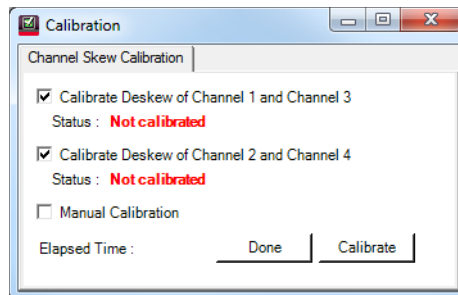
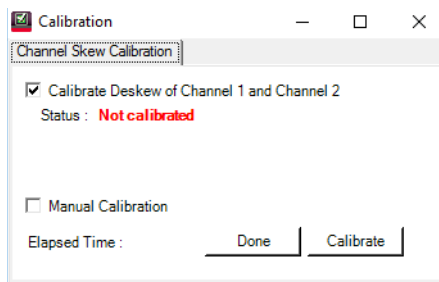

Figure 15 Options for Channel Skew Calibration on a 4-Channel Oscilloscope
Figure 16 Options for Channel Skew Calibration on a 2-Channel Oscilloscope
- 2 The **Calibration** window appears, where the **Channel Skew Calibration** tab is displayed by default, as shown in Figure 15 for a 4-Channel Oscilloscope and in Figure 16 for a 2-Channel Oscilloscope.